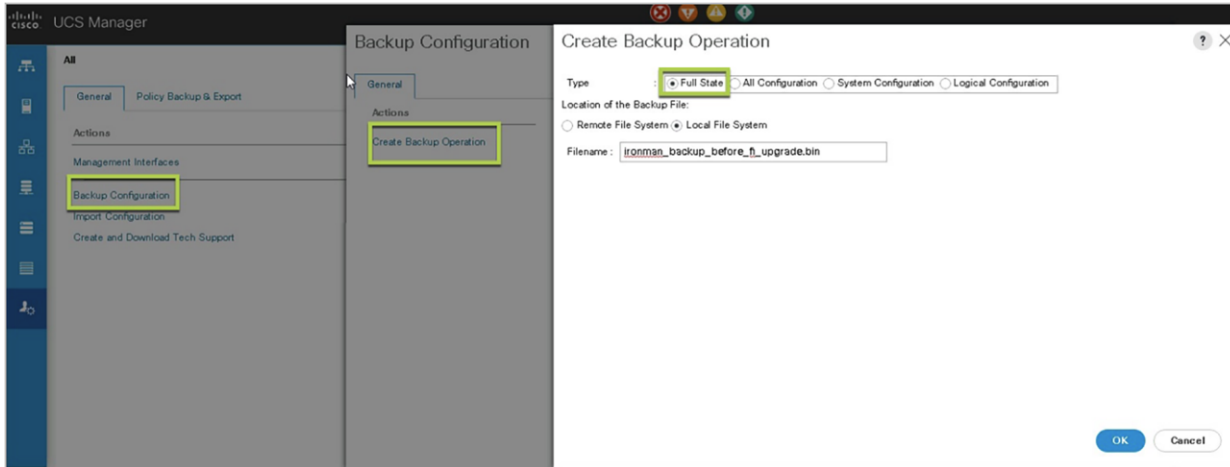

Figure 4.
- Connect to UCS Manager and navigate to **Admin menu -> Backup Configuration** and take a “Full State” backup (Figure 4).